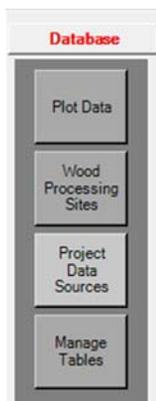

Figure 2.20 – Project data sources.
- To view the directory paths and names of the project database files and tables, determine whether or not the file and table names exist, and view table record counts click the **<Project Data Sources>** button from the left-hand menu shown in Figure 2.20. This tool can also be used to change the information source for particular tables in a project (i.e., to point to a different database or table).